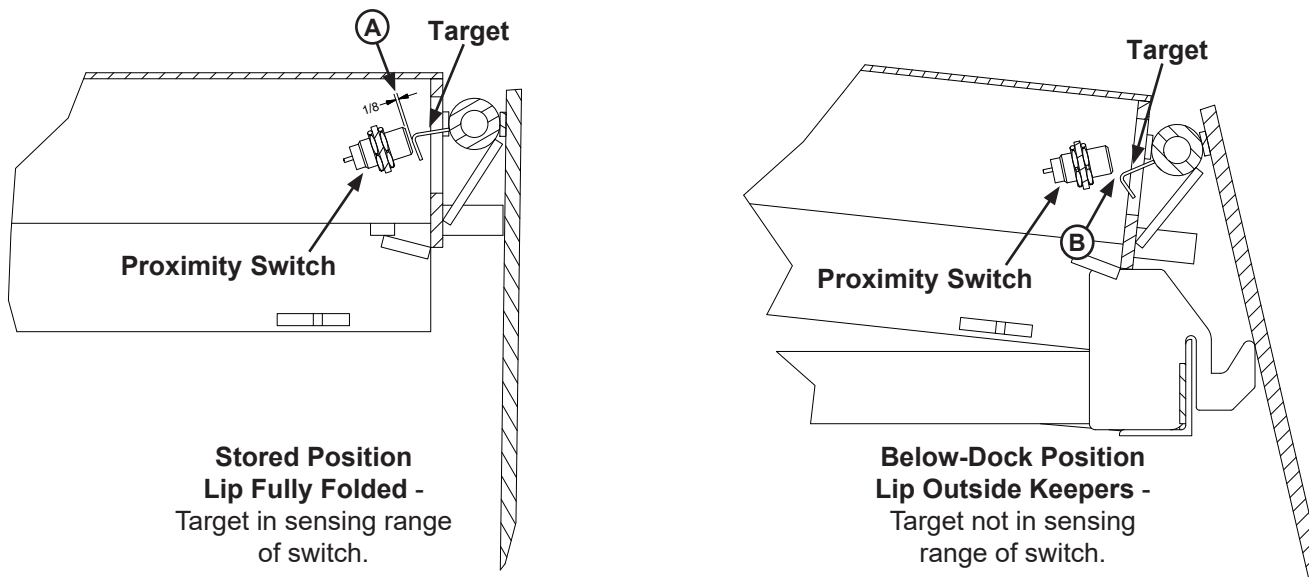

Figure 22
3. Press the RAISE button. The dock leveler should NOT raise. If the leveler did not raise, proceed with step 4. If the leveler did raise, decrease dimension (A), so that the target is in the sensing range of the switch. Typical factory setting for (A) is approximately 1/8". Make adjustments at switch until leveler does not raise when the vehicle restraint is not engaged on transport vehicle RIG bar. See Figure 22.
6. Press the RELEASE button. The vehicle restraint should NOT disengage from the transport vehicle RIG bar or test fixture. If the vehicle restraint did NOT disengage, proceed with Step 7. If the vehicle restraint DID disengage, move the switch farther from the target or bend the target to increase dimension (B) so that the target is not in the sensing range of the switch. Make adjustments at switch and/or target until vehicle restraint does not disengage transport vehicle. See Figure 22.